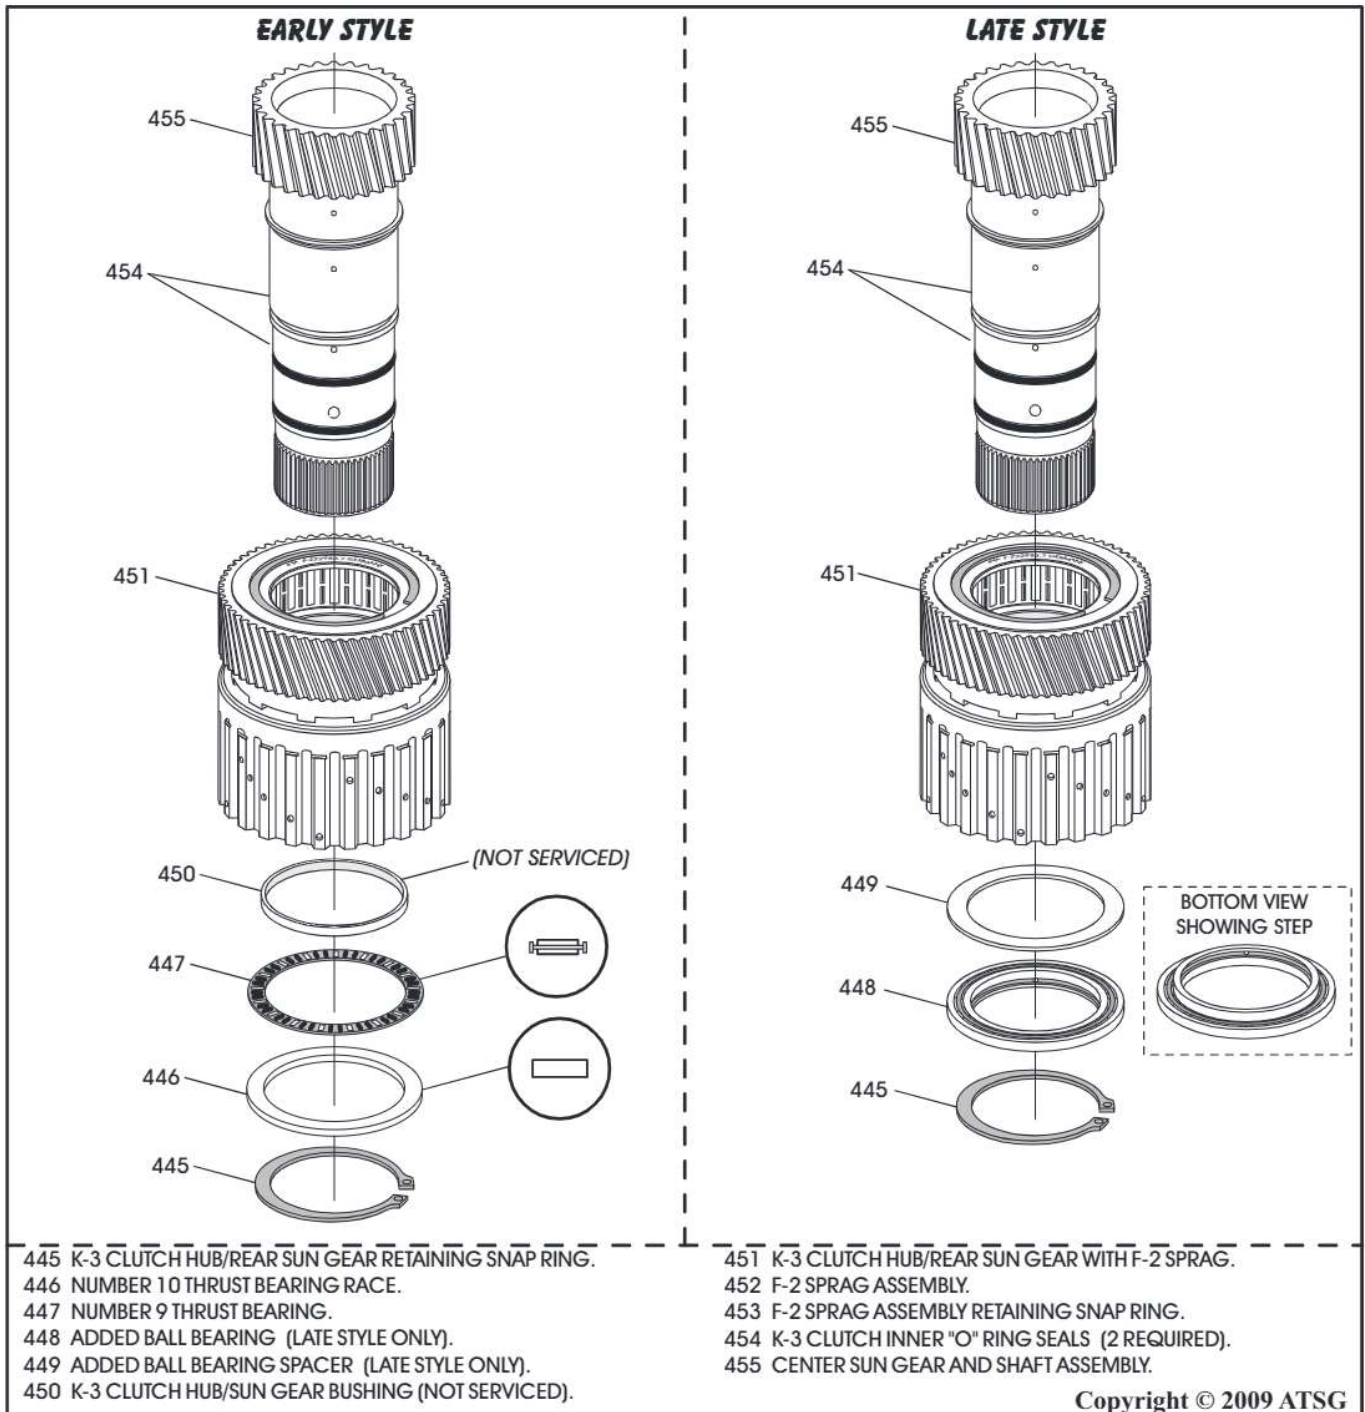

Figure 124
SEE FIGURE 124 FOR
2. The rear sun gear changed with the bushing being replaced with a ball bearing, as shown in Figure 124.
3. This allowed the elimination of the number 9 thrust bearing and number 10 thrust bearing race, as shown in Figure 124.